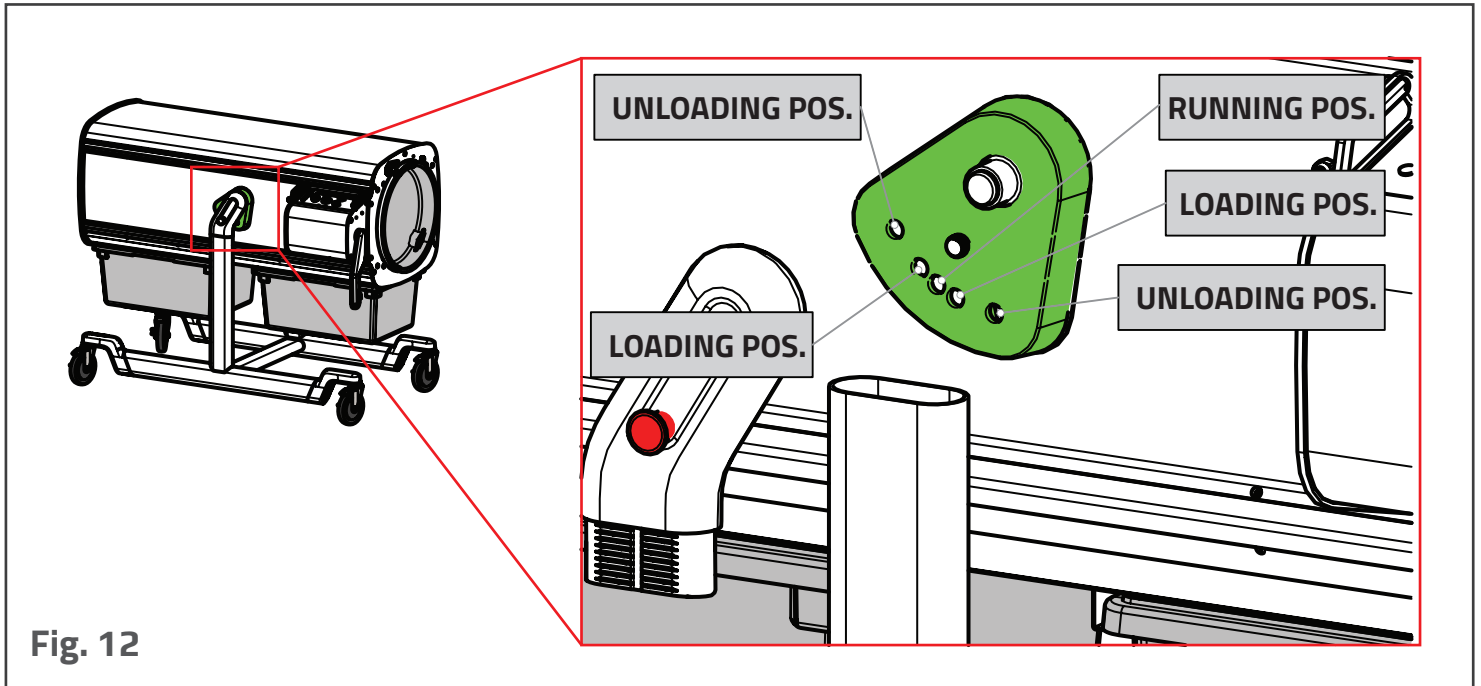

Fig. 12
3. Tilt the machine carefully into one of two loading tilt positions (see Fig. 12 top of page 13).